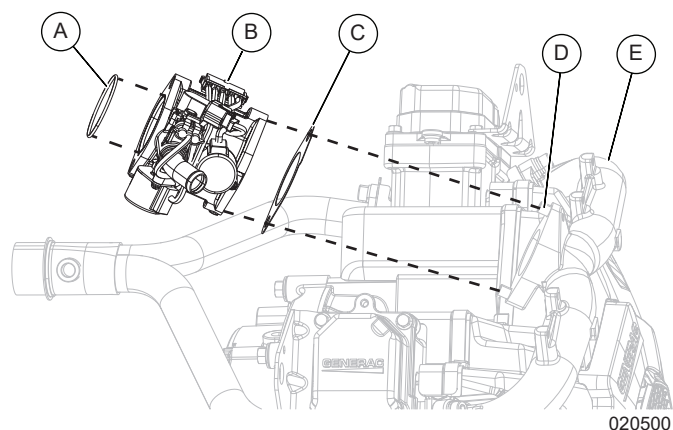

Figure 6-12. Remove Mixer Assembly
- See Figure 6-12. Remove O-ring (A) from groove on face of mixer (B) where it mates the air box bottom.